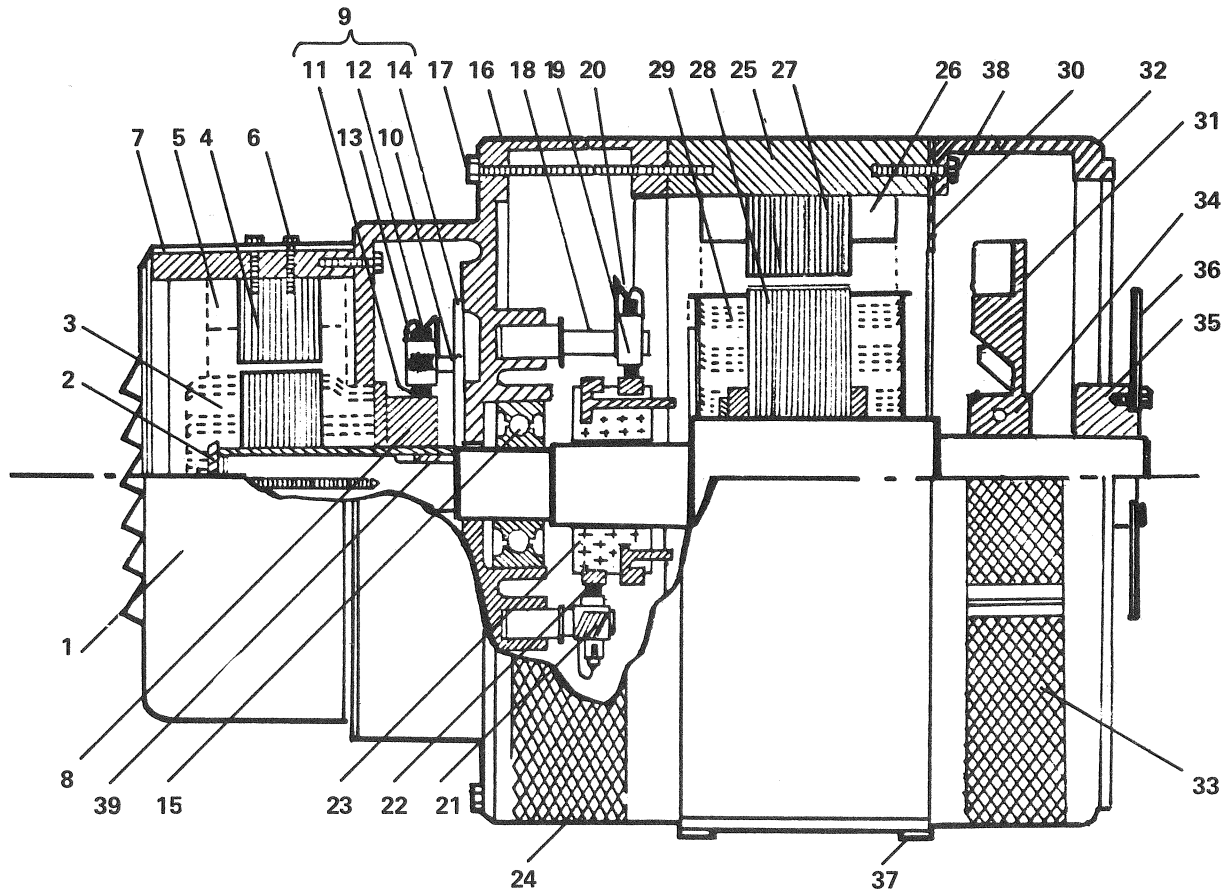

FIGURE 4-5 CROSS SECTIONAL VIEW - TYPICAL SINGLE BEARING REVOLVING FIELD AC GENERATOR WITH DIRECT CONNECTED BRUSH TYPE DC EXCITER.
4.18.2 Disassemble generators of the type described above as shown in figure 4-5 as follows:
- c. Remove exciter cover (1). Make sure brushes (11) and (22) are raised in holders before generator is removed from the engine.
- g. Remove exciter armature retaining bolt and washer (2).
- h. Remove exciter armature (3) and if used, aligning key (39).
- i. Remove commutator endbell bolts (17). Tap to loosen endbell (16).